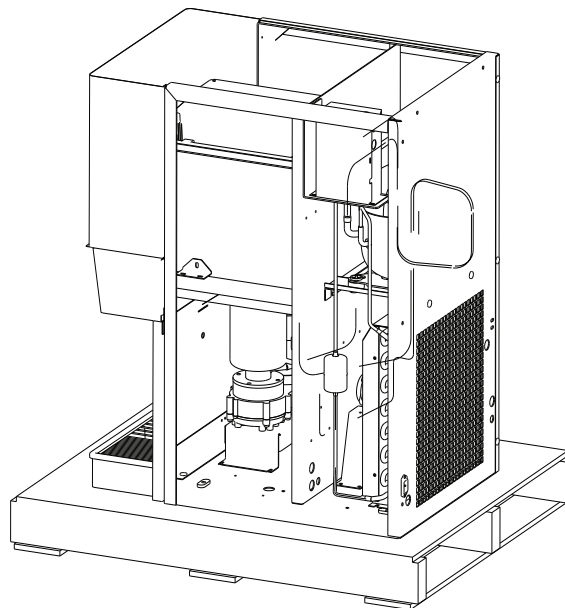

Figure 10. Refrigeration Assembly
14. Ensure all the Tubings are placed as shown in Figure 10.